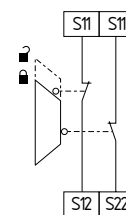

Fig. 8
**Dual-channel guard door monitoring circuit with interlocking device to EN 1088 (Fig. 8)**